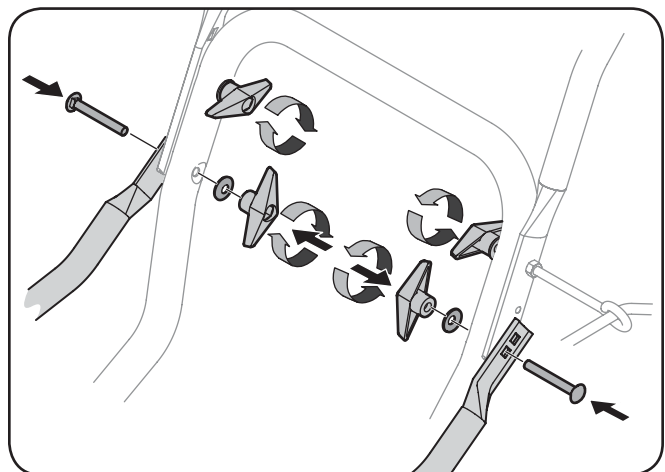

Fig. 3-3
- Secure the upper handle and lower handle (and support tubes if equipped) with the handle knobs, washers and carriage bolts previously removed. See Figure 3-3.